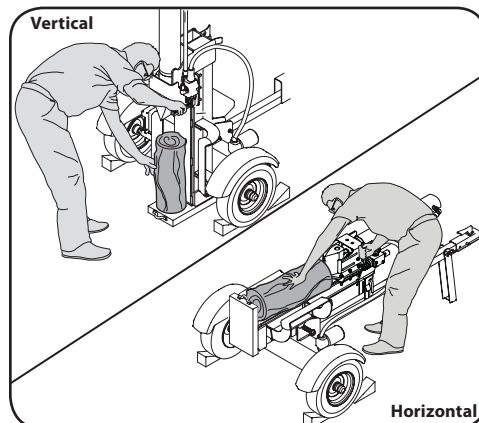

Figure 4-2
2. Block the front and back of both wheels. See Figure 4-2.
3. To stabilize the log, place your left hand on the side of the log opposite the beam as shown in Figure 4-2.